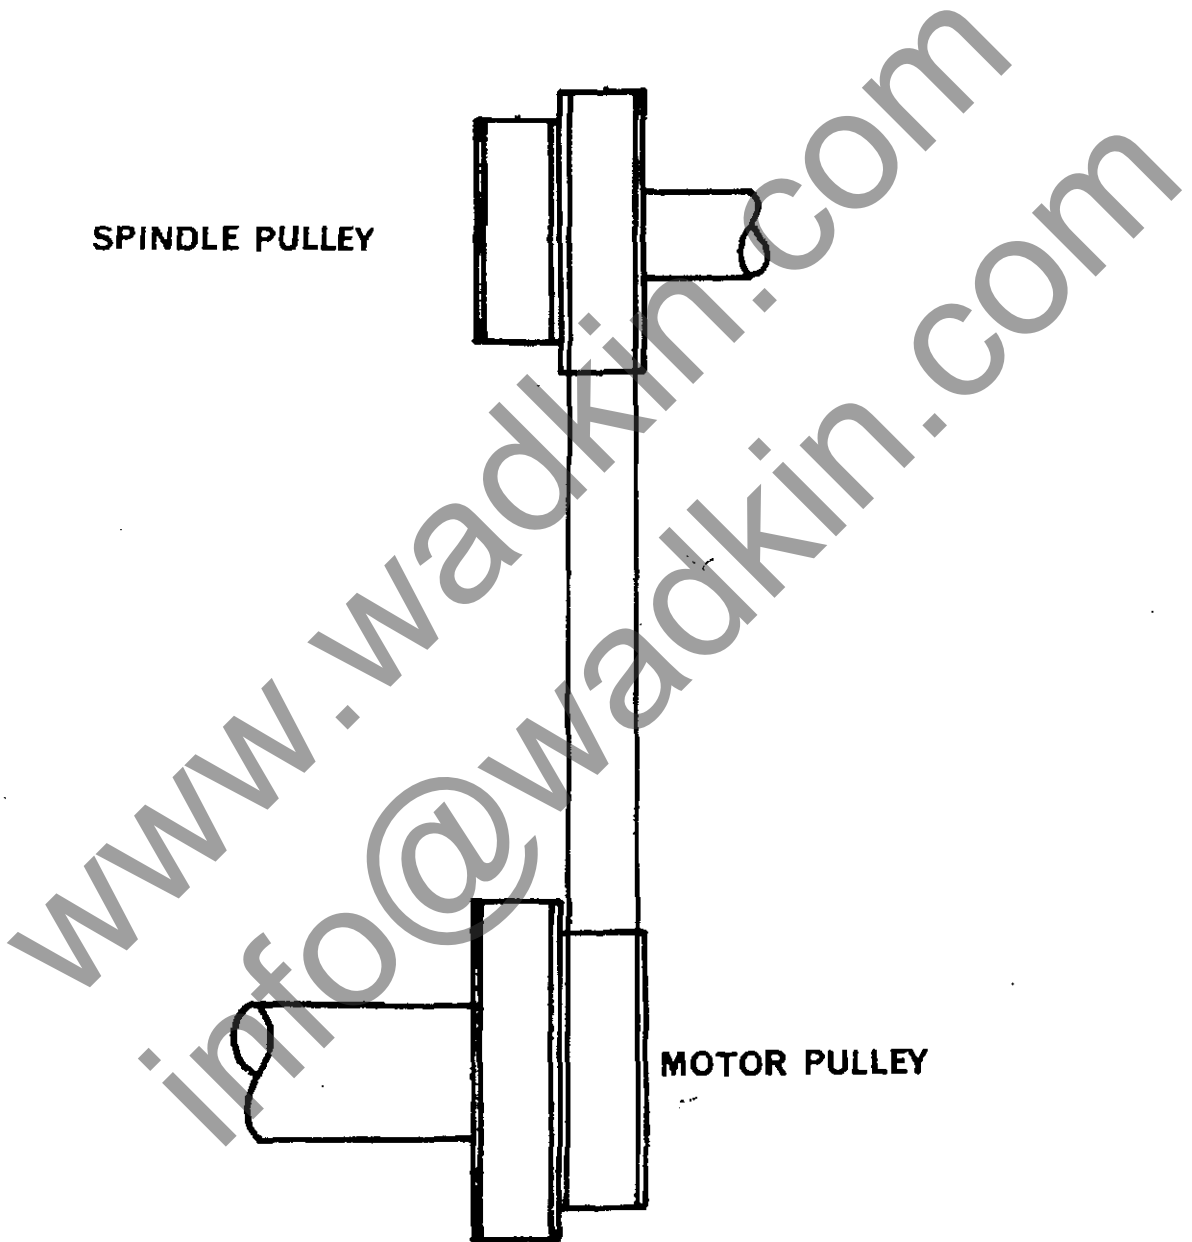

FIG. 36
- 4 Change belt "C" to required pulley on spindle pulley and motor pulley. See pulley diagram FIG.36 for required spindle speed.